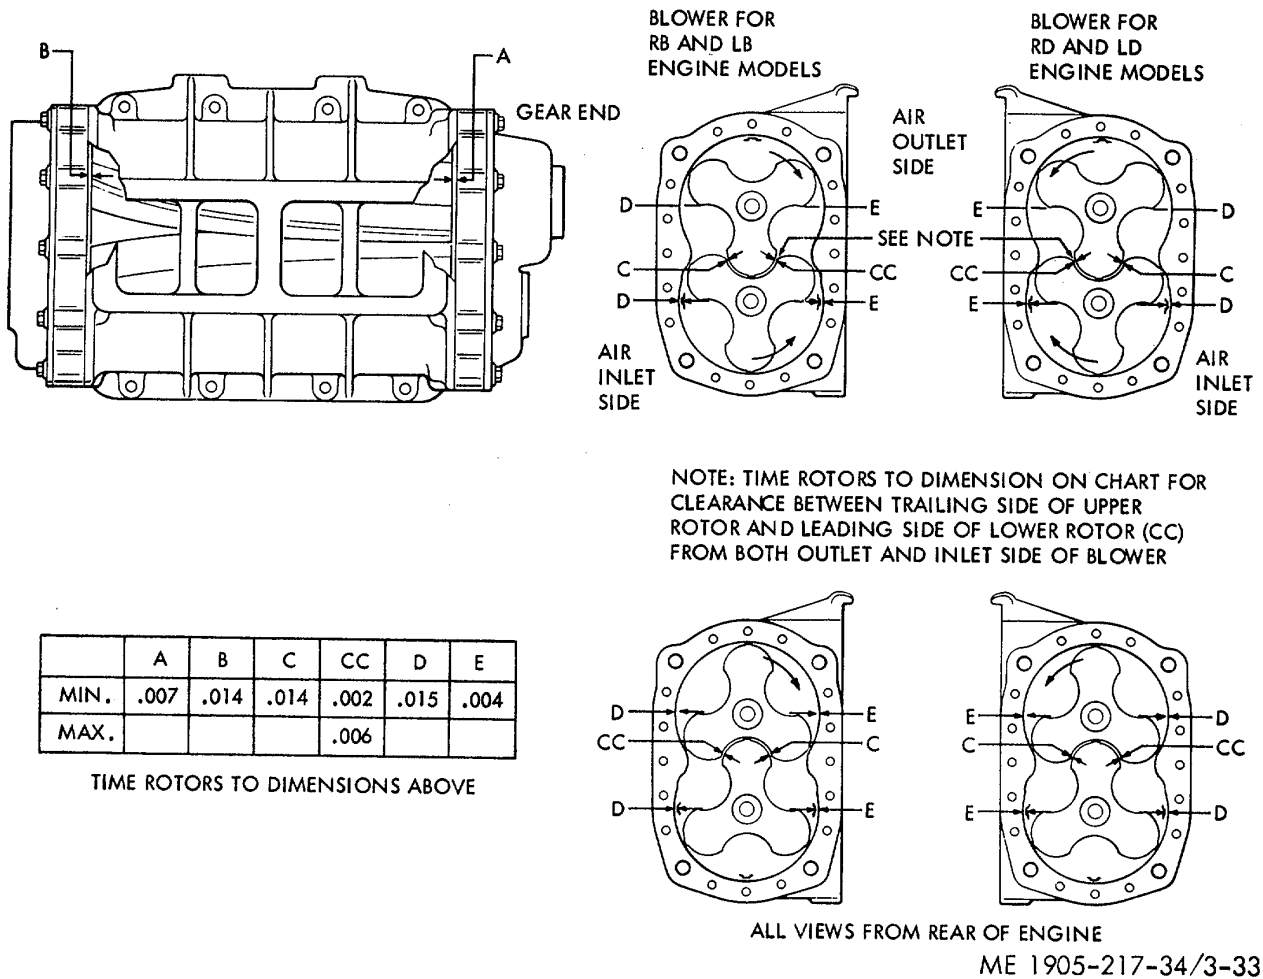

Figure 3-33. Chart of minimum clearances for blower
(14) Make a preliminary check of the rotor-to-end plate and rotor-to-housing clearances at this time with a feeler gage. Refer to figure 3-33 for minimum blower clearances.
(d) Determine the minimum clearances at points "A" and "B" shown in figure 3-33. Insert the feeler gages between the end plates and the ends of the rotors. This operation must be performed at the ends of each lobe, making twelve measurements in all.
(e) Check the clearance between each rotor lobe and the blower housing at both the inlet and outlet side-twelve measurements in all. See figure 3-33 for the minimum clearances.